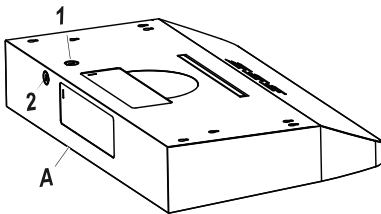

Fig. 10
- Use the power supply cable to connect the range hood (A) directly to the junction box or circuit breaker box. Use a flexible, armoured, or nonmetallic sheathed copper cable only. Never use an extension cord or adapter plug.
- Connect a UL-listed or CSA-approved conduit connector to each end of the power supply cable (at the range hood and at the junction box). Connect the 2 colored wires from the range hood (A) to the corresponding wires from the electrical source: black to black (live), white to white (neutral), and the house grounding wire to the green ground screw. Use either the top hole (1) or the back hole (2) of the range hood depending on your installation type as shown in Fig. 10.
- Choose the appropriate electrical knock-out hole to remove for your installation type. Use the top hole (1) if your electrical supply is in the cabinet and the back hole (2) if your electrical supply is on the wall below the cabinet (refer to Fig. 10).